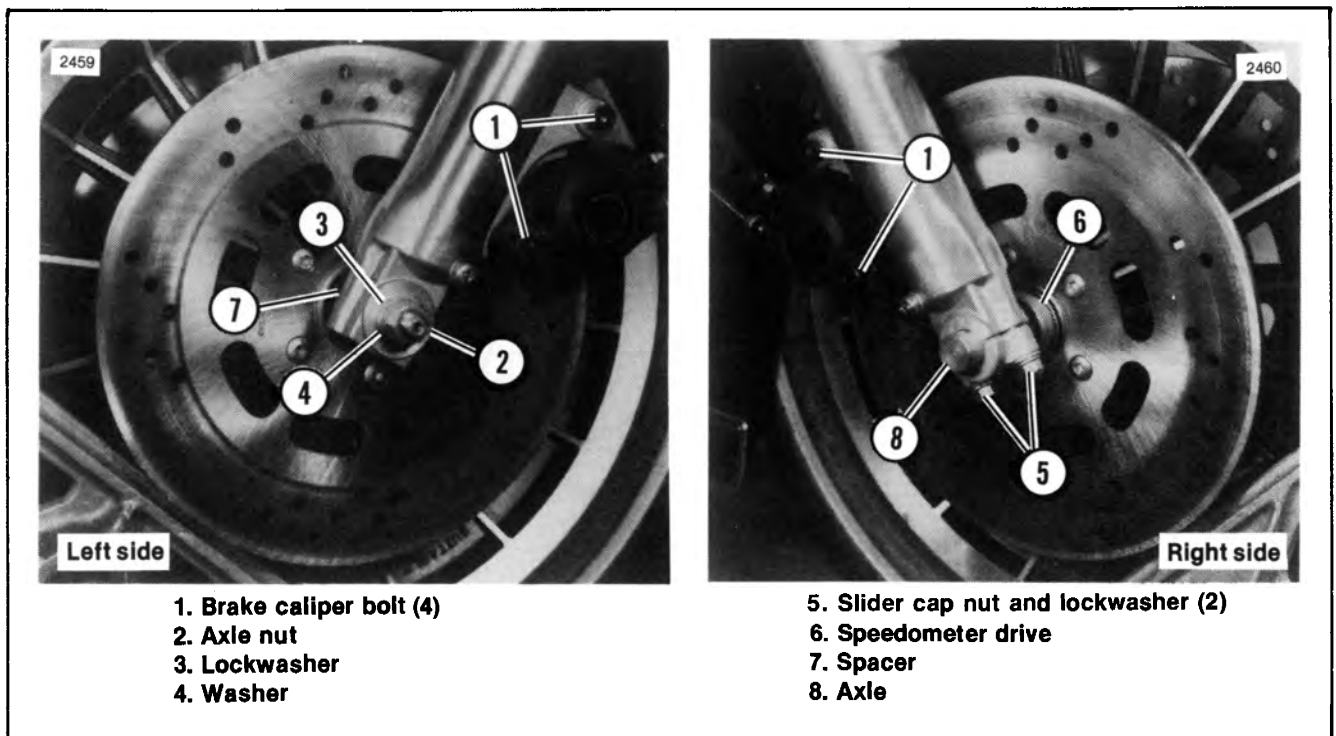

Figure 2-1. Front Wheel Mounting — FLT Models
REMOVAL (Figure 2-1)
1. See Figure 2-1. Place wheel into front fork with the valve stem hole to the left side. On 1984 to 1986 vehicles install the speedometer drive (6) between the wheel and right fork leg and spacer (7) between the wheel and left fork leg. On 1987 and later vehicles install the speedometer drive, with seal, at the left and the spacer at the right. Be sure the seal is installed between the speedometer drive and wheel. The tab on the speedometer drive fits into the slot on the brake disc.
2. Coat the axle with Loctite ANTI-SEIZE LUBRICANT. Insert axle into the wheel from the right side. Install the spacer (7) between the wheel and left fork side.
3. Install the washer (4), lockwasher (3) and axle nut (2). Tighten the axle nut to 50 ft-lbs torque. Tighten the axle cap nuts 5 - 11 ft-lbs torque.